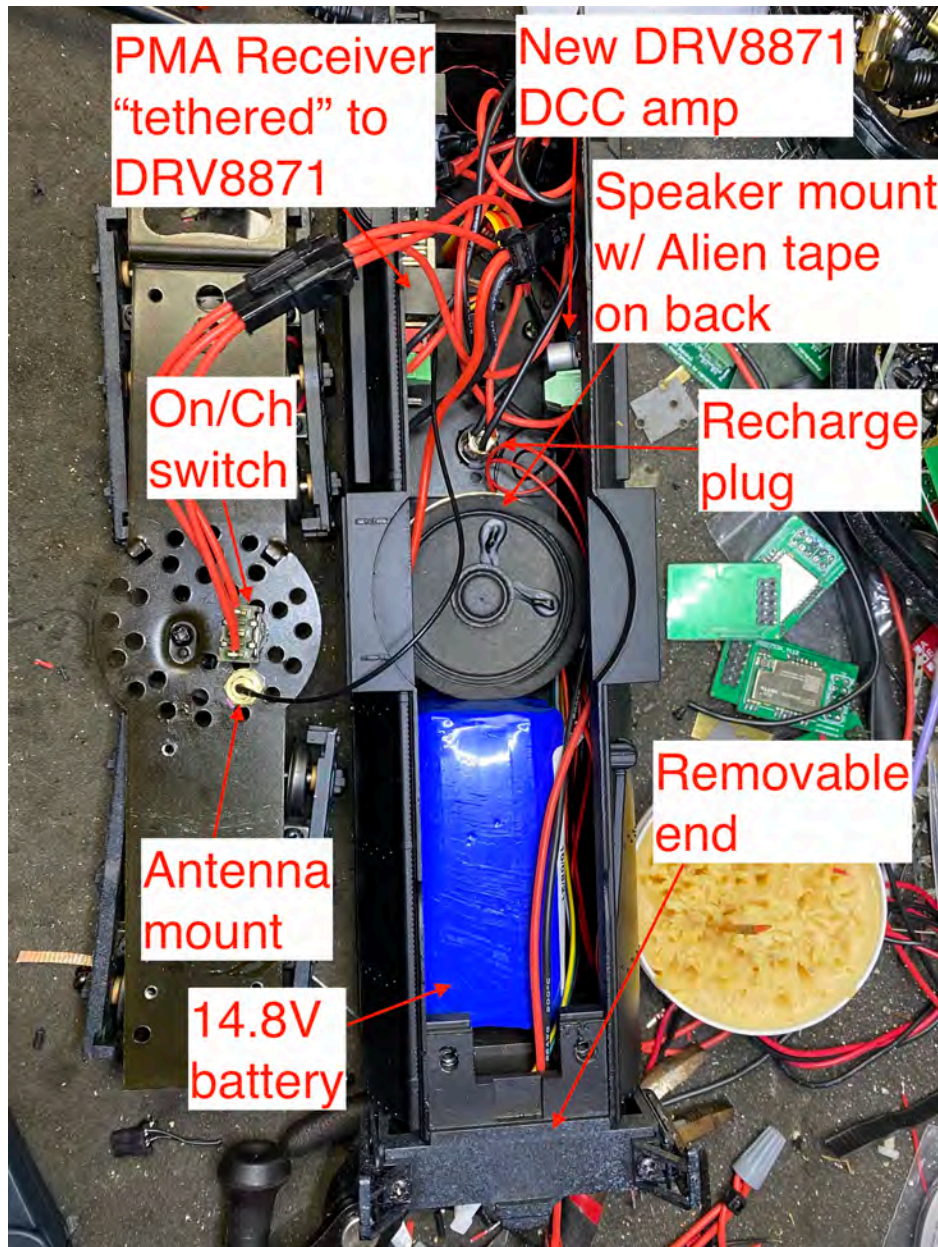

Figure 17: ProMiniAir receiver integration with battery power, a DRV8871 H-bridge “amp,” and antenna
- The AdaFruit DRV8871 or DRV8871 clones are smaller (1.0”x0.8”x0.4”) 3.6A H-bridge motor drivers requiring two logic-level DCC inputs that are inverted with respect to each other. We activate this output scheme by setting CV253 to 0. On power-up, some decoders produce large “in-rush” currents because their large “keep-alive” capacitors are in near short-circuit condition before they charge. These in-rush currents will cause the DRV8871 to shut down unless the output current is limited. We insert a 1-ohm resistor in series with the DCC output to limit the current during short-circuit conditions. See Figure 17.